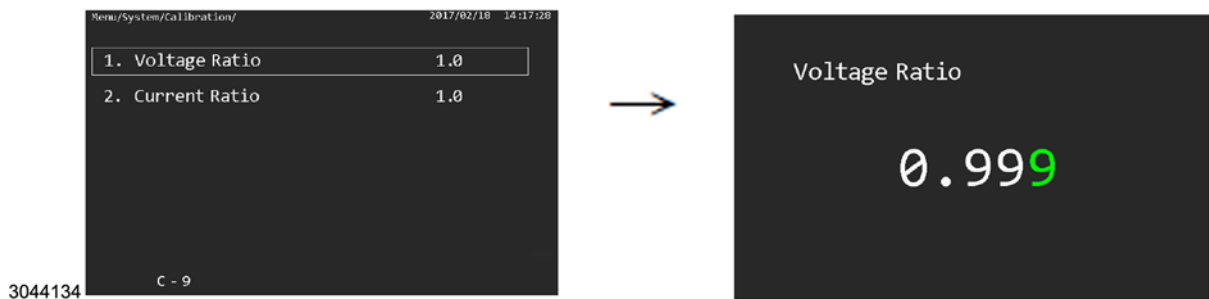

FIGURE 4-3. VOLTAGE RATIO CALIBRATION
6. After entering the password, the touchscreen shows selections for **1. Voltage Ratio** and **2. Current Ratio**. Select **1. Voltage Ratio** using either the touch screen or **SELECT** encoder and **ENTER** switch (see Figure 4-3). The previous voltage ratio is displayed.